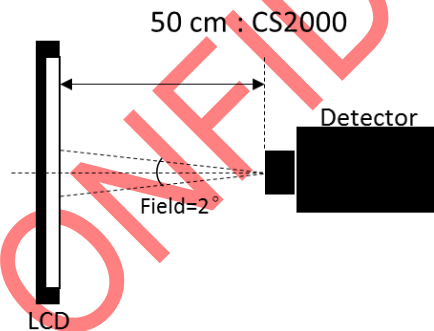

Fig. 4.1 Measurement equipment
- (1) Each chromaticity coordinates (x, y) are measured in CIE1931 color space when full-screen displaying (Red, Green, Blue, White) and light source is defined by HKC BLU, measurements shall be made at the center of the panel, and setup of measurement is shown in Fig. 4.1.
- (2) The color gamut is defined as the fraction in percent of the area of the triangle bounded by R, G, B coordinates and the area is defined by NTSC 1931 color standard in the CIE color space. Chromaticity coordinates are measured by CS2000 and the standard setup of measurement is shown in Fig. 4.1.
- (3) Definition of Transmittance (T%):
(6) Definition of Viewing angle:
As Note (4) the static contrast ratio definition, the viewing angles are defined at the angle that the contrast ratio is larger than 10 at four directions relative to the perpendicular direction of the HKC's module (two vertical angles: up θ_{y+} and down θ_{y-} ; and two horizontal angles: right θ_{x+} and left θ_{x-}). The standard setup of measurement is shown in Fig. 4.1 & 4.4